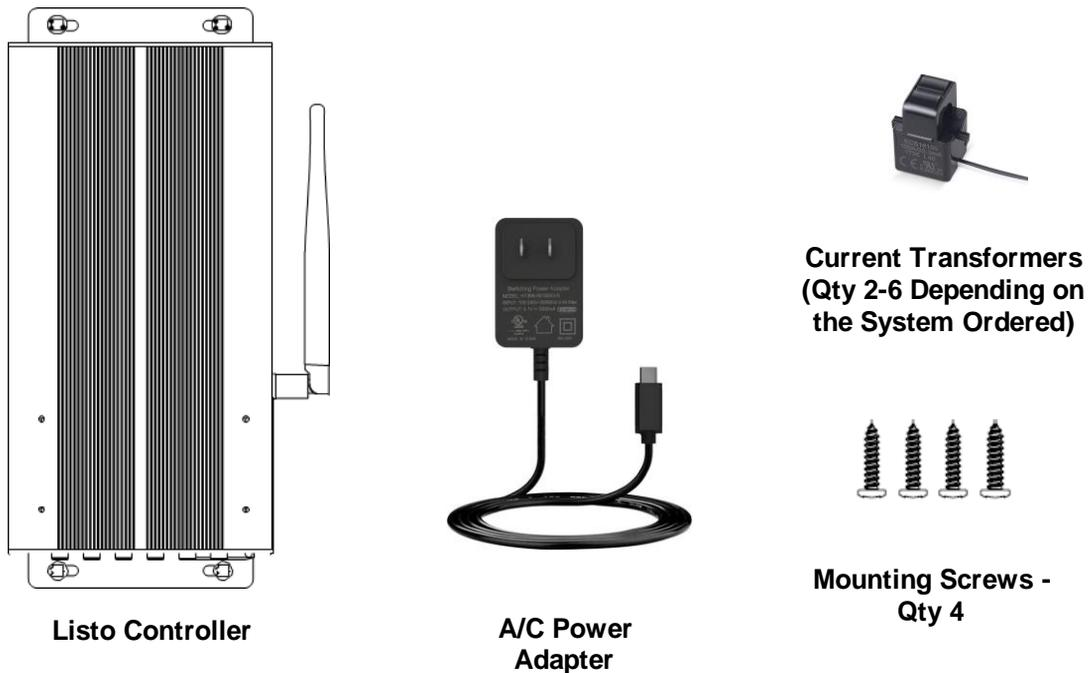

Figure 1 - Listo EMS Components
1. Open the White Box labeled Listo Controller and remove the items from the protective packaging - save the box and packaging. See Figures 1, 2 below.